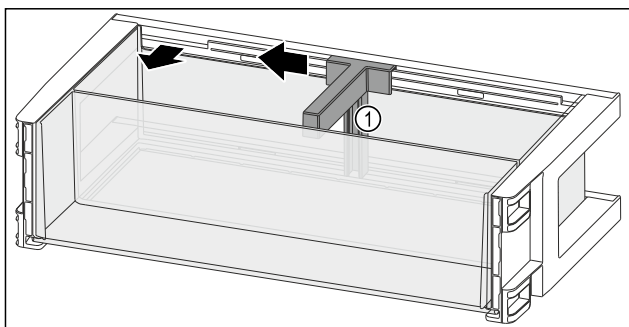

Fig. 152
- ▶ Push the bottle holder Fig. 152 (1) to the side up to the recess.
- ▶ Remove the bottle holder Fig. 152 (1).